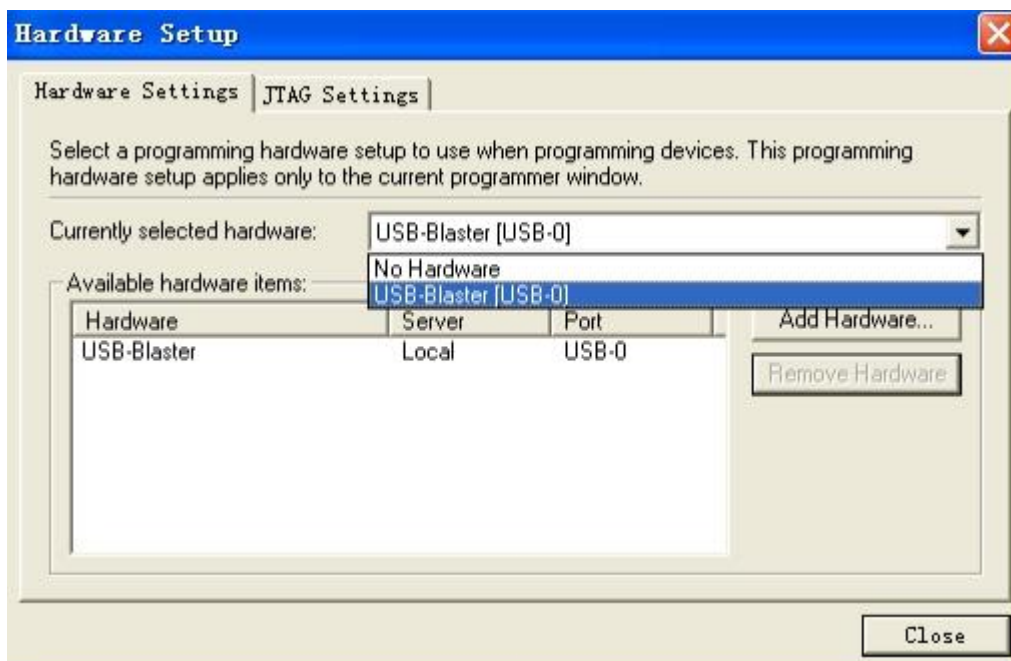

Figure 4-4 Hardware Setting
3. If it is not already turned on, turn on the USB-Blaster [USB-0] option under currently selected hardware. See Figure 4-4.